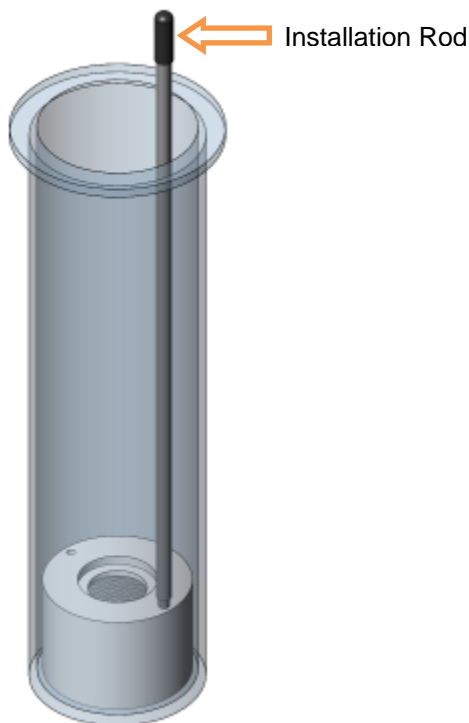

Fig. 5
2. Lower the immersion cell slowly into the vessel (Fig. 5).